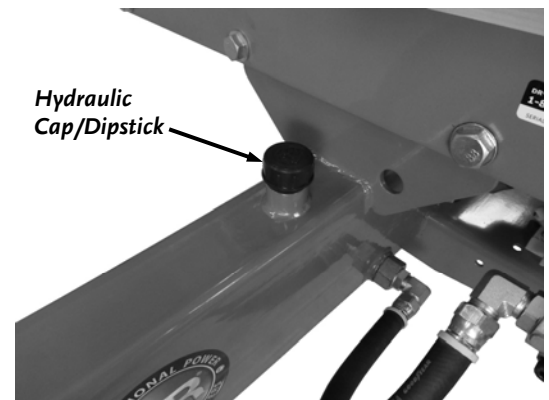

Figure 15
25. Install Hydraulic Cap/Dipstick into the hole on top of the Tank (**Figure 15**).